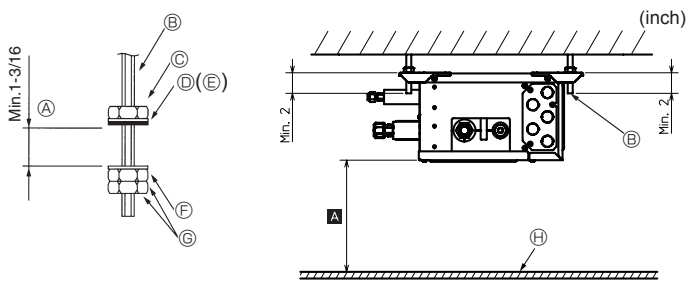

Fig. 6-1
- (2) Fit the washers and nuts (①, ②, procure locally) to the suspension bolts. (Fig. 6-1)
- (3) Hang the unit on the suspension bolts.
- (4) Fully tighten the nuts (check ceiling height).
- (5) Use a level to adjust the branch box to the horizontal.
- Ⓓ Washer (with cushion) ①
- Ⓕ Washer (without cushion) ②